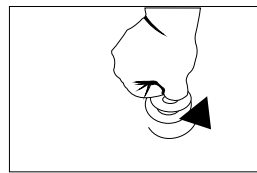

Figure 3
- 6.** Place the container exactly under the drain plug as long as you empty after it is full each time. (Figure 3)
- 9.** Plug your product into the wall-socket and ensure to operate it unloaded for at least three (3) hours on super cooling position.